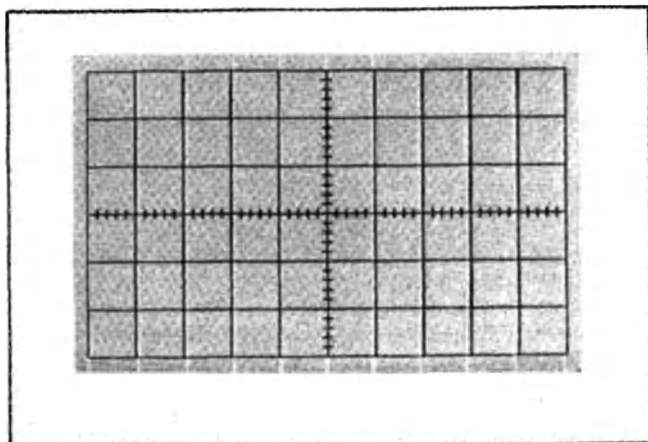

Fig. 5-2. Typical CRT display showing good geometry.
- c. CHECK—CRT display for curvature of vertical lines (markers) within maximum deviation of 0.1 division from straight line. Fig. 5-2 shows a typical display of good geometry.